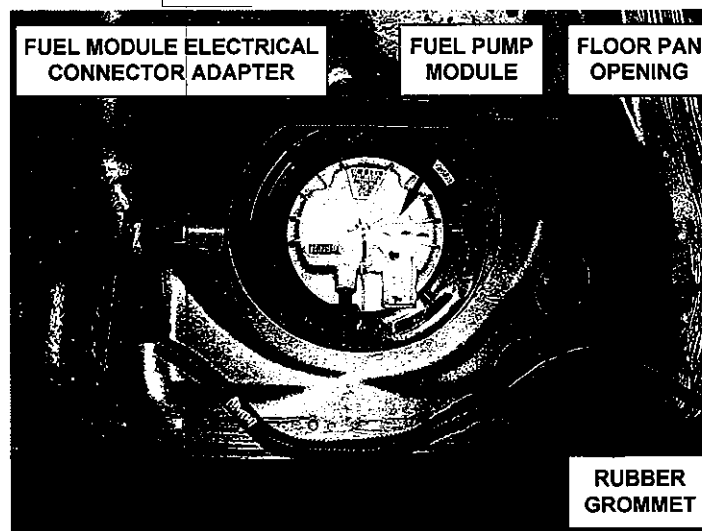

Figure 2 – Fuel Pump Module Wiring
6. Remove the fuel pump module wiring harness rubber grommet from the floor pan opening and pull wiring from body opening (Figure 2).
7. Remove and discard the fuel module electrical connector adapter (Figure 2).